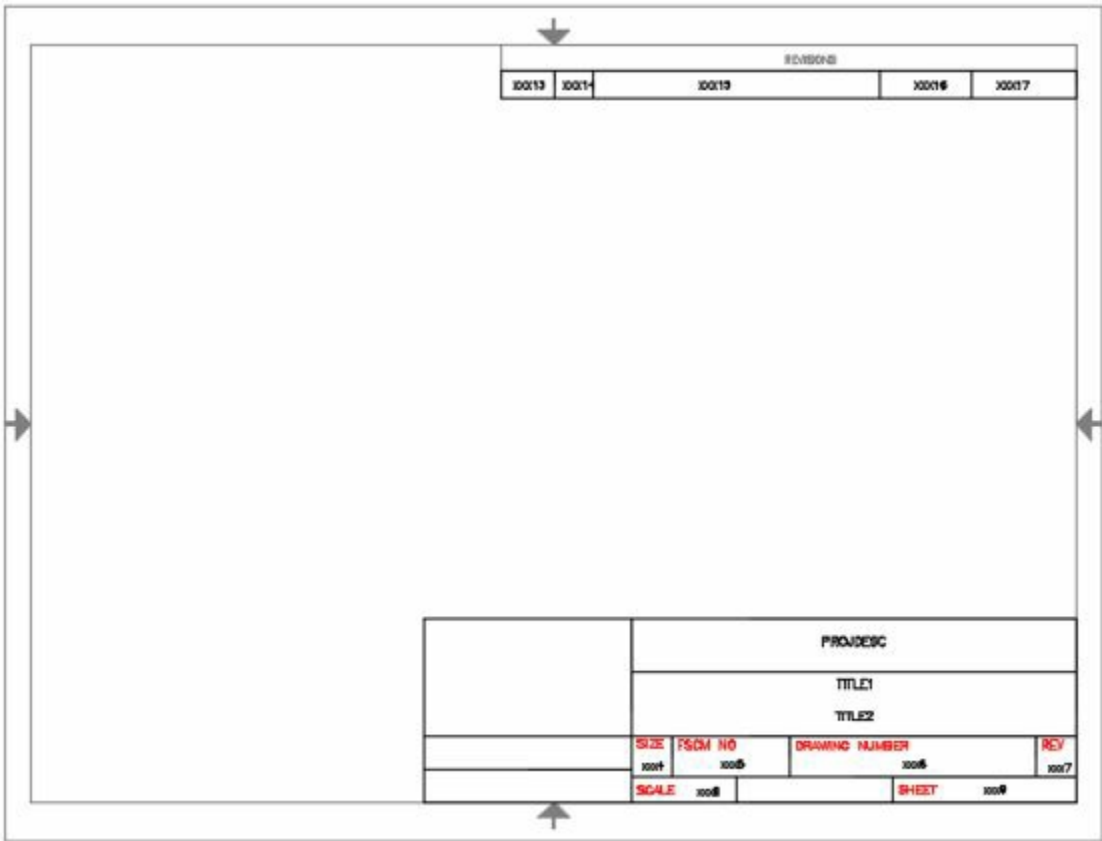

Figure-51. Drawing opened with the template
- Click on the **ACE ANSI A(Landscape) Color.dwt** template from the list of templates. A new drawing will open with the selected template; refer to Figure-51.